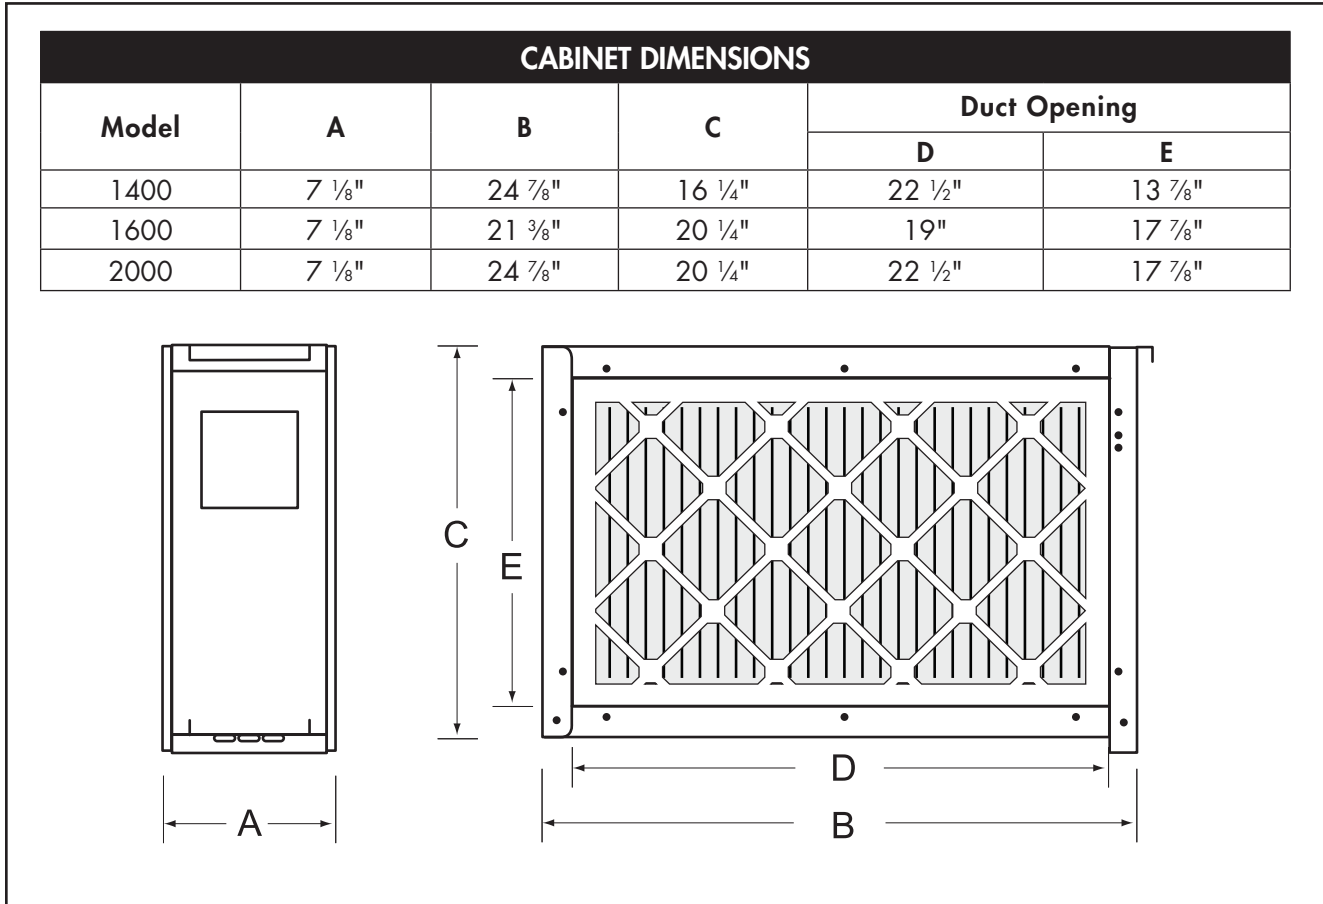

Figure 8
2. Remove the filter cabinet access panel. **NOTE:** "AIR FLOW" directional arrow, located on existing media filter (Figure 8 and 9).